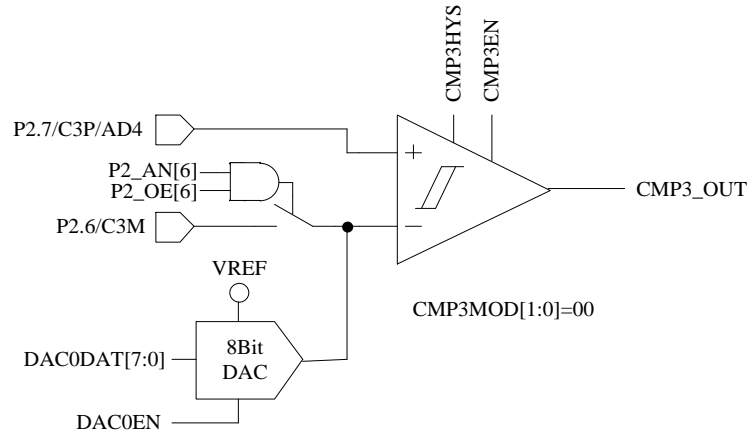

Figure 30-2 Single-comparator Input Mode
- When CMP_CR1[CMP3MOD] = 00, CMP3 works in Single-comparator Input Mode. The connection of input and output pins are shown in Figure 30-2.